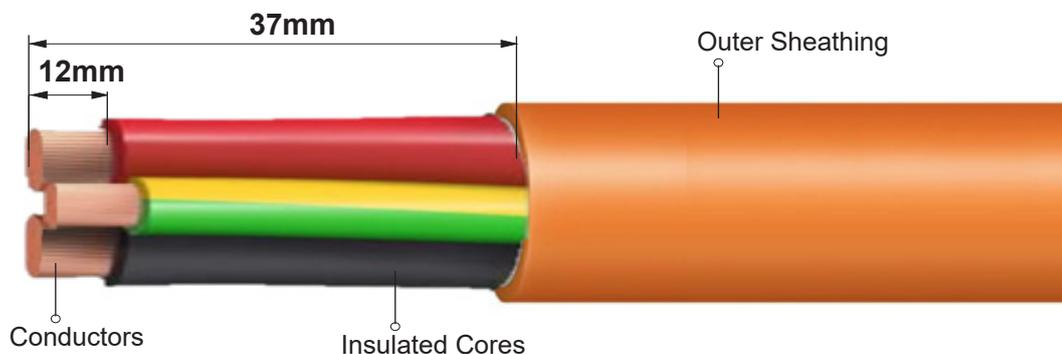

Figure 3: Cable Stripping Lengths
1. Select the suitable **J09 Straight Plug** by verifying the information given in Table 1 with the laser marking on the plug body. Unscrew the **Assembly Screws** and the **Lock Nut**. Mark the stripping length of the cable as shown in Figure 3 below.